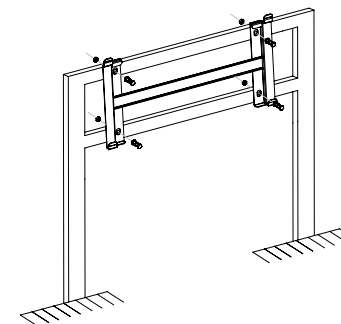

Figure 4-6 Fixing the bracket
- 3) Follow the instructions in the picture below to install the M10 bracket screws (bolt, spring washer, flat washer) and tighten the bolts with torque wrench in the torque of 35-40N.m, see Figure 4-6 for details: